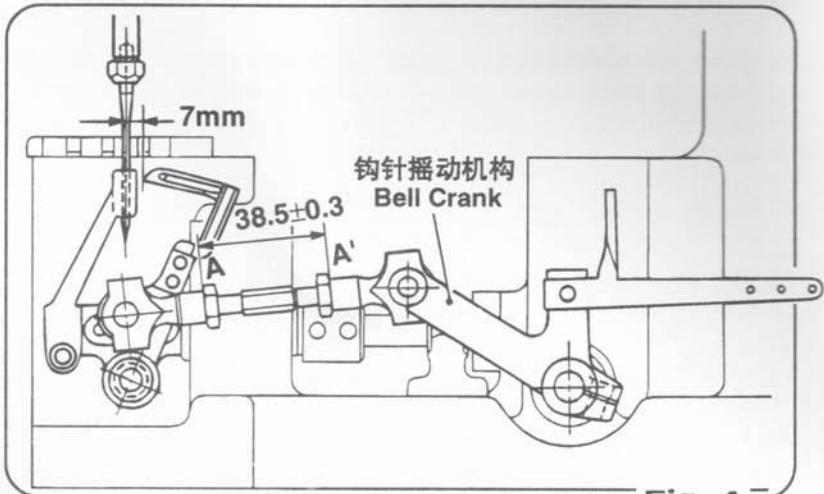
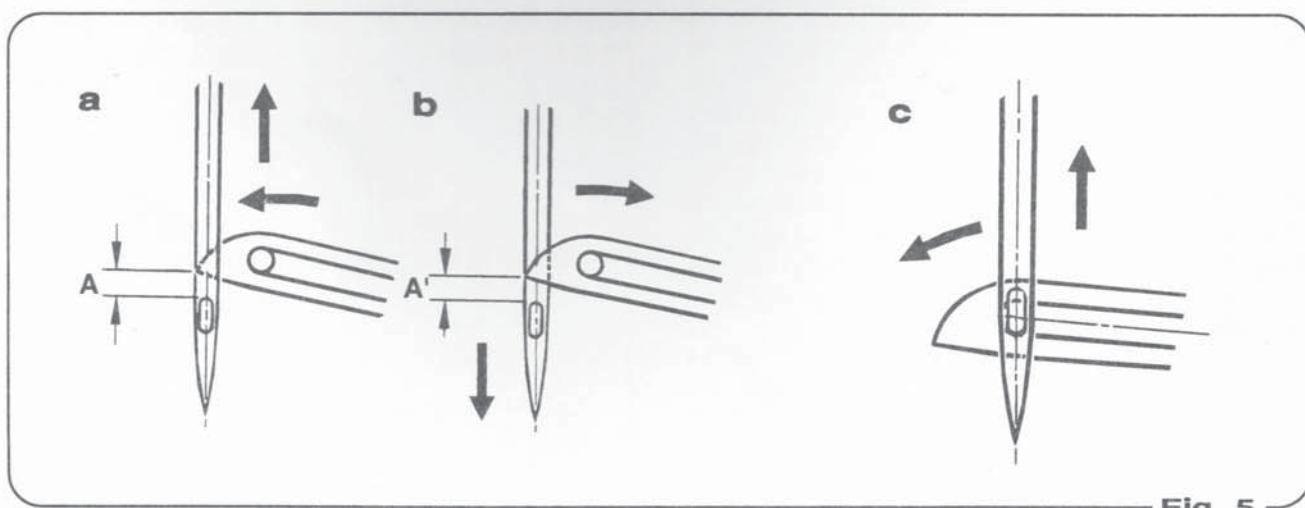
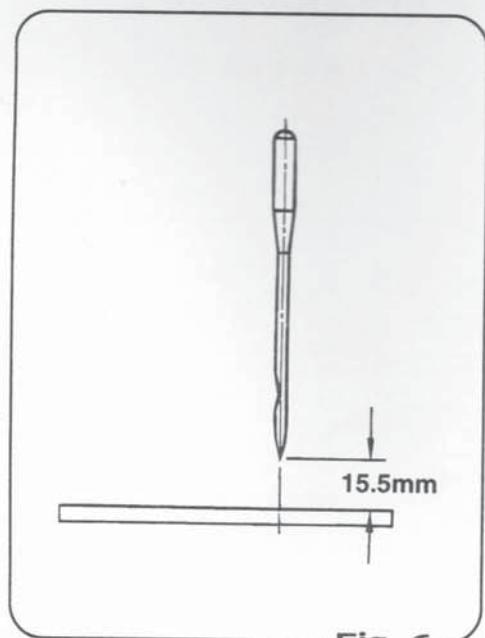

Fig. 4
Fig. 5
Fig. 6
Presser foot pressure must be adjusted according to the material of bag and thickness. Check the reverse side of seams. The pressure is too strong if seams show a sign of scratches by feed dog teeth, or the actual stitch length is shorter than the preset feed rate of feed dog teeth. In this case, unscrew plate spring adjust screw(102171), Figure 4, after loosening nut (5/16N24301). Be sure to tighten the nut after the adjustment. If the pressure is too weak, seams do not form a straight line, or the stitch length is irregular. In this case, increase the pressure by screwing the plate spring adjust screw. Decrease the pressure when closing jute and other heavy bag material, and increase it when closing PP woven cloth and other light bag material. Your machine is adjusted for 3-ply kraft paper bags at the factory.
- a) Turn the pulley in the forward direction and adjust the bell crank so that the end of the looper is 7mm away from the needle center when the needle is in the most retracted position, as shown in (Fig.4). The distance between the nut (outside) of Looper Connecting Rod must be  $38.5 \pm 0.3\text{mm}$ . (Fig.4)
Needle 5 and looper 1 movements are correctly timed if distance (A and A' of Fig.4) between Looper point and Needle hole when Looper points gets in line with left-side edge of Needle 5 is the same as Looper 1 passes Needle in forward and backward movements.  $A=A' \pm 0.3\text{mm}$  is allowable. Adjust by lightly tapping the looper Drive Lever. Looper eyelet should overlap with lower part of oval hole of Needle, as shown in (Fig.5-c.) as looper goes forward. Adjustment can also be done by loosening the set screw of the needle bar connecting stud and adjusting the height of the needle bar so that the end of the needle is 15.5mm from the upper surface of the throat plate as shown in (Fig.6).
预先保持距离(A-A')，相隔 $38.5\text{mm} \pm 0.3\text{mm}$ 以内，而如图所示(图4)装球连杆(#063072AA)。
由于调整钩针尖头应准缝针孔中心线上，请将钩针前进或后退而调整位置。钩针和缝针交叉时候，从钩针尖头到缝针穴的距离，如图所示(图5-a/b)，须要确保一定的(A=A')尺寸。尚有 $A=A' \pm 0.3\text{mm}$ 容许限度。
- \* A=A' 尺寸确认后(图5-C)，为了钩针穴下面和针穴下面要合在一起，请将针棒抱合(#032171)放松螺钉而调整针棒高度。
- \* 预先如图所示(图6)，针上升到最高位置时，针至针板距是15.5mm，将针棒高在那地点定下，以后调整工作容易进行。